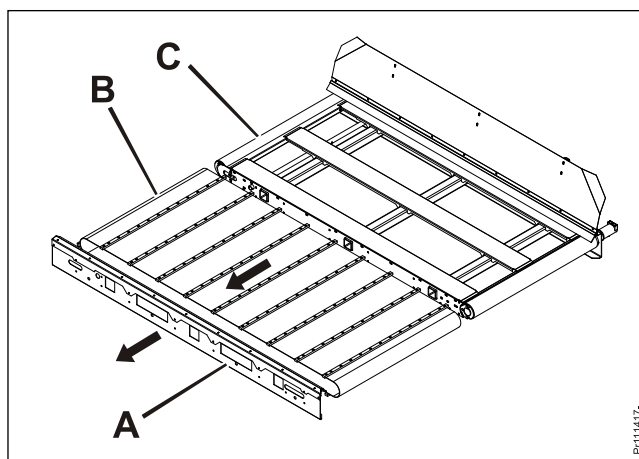

Fig. 4-7
- Fig. 4-7 The front guard **A** of the belt unit with the super seal brushing is bolted off the belt frame **C**.
- Fig. 4-7 Now the belt **B** can easily be pulled off the belt frame **C** without other parts coming off as well.